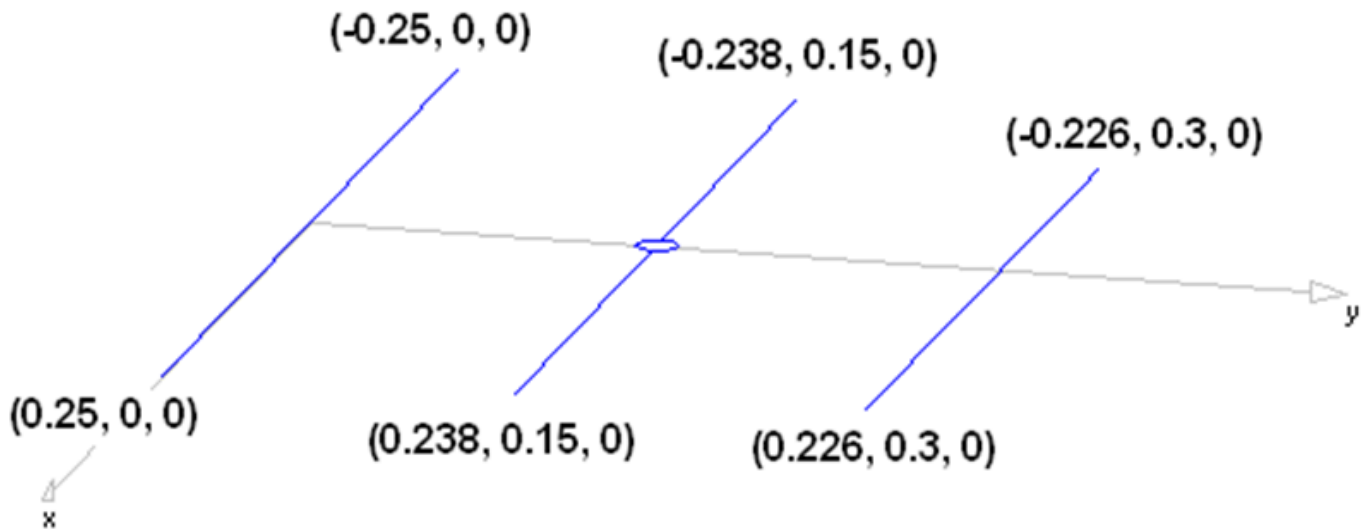

Fig. 1: Yagi-Uda array geometry definition (coordinates in meters).
Now that you've mastered cylindrical antenna basics, let's progress to antenna arrays. This guide walks you through simulating a classic **3-element Yagi-Uda design (Fig. 1)** featuring:
- Use coordinates from **Fig. 1** for precise spacing